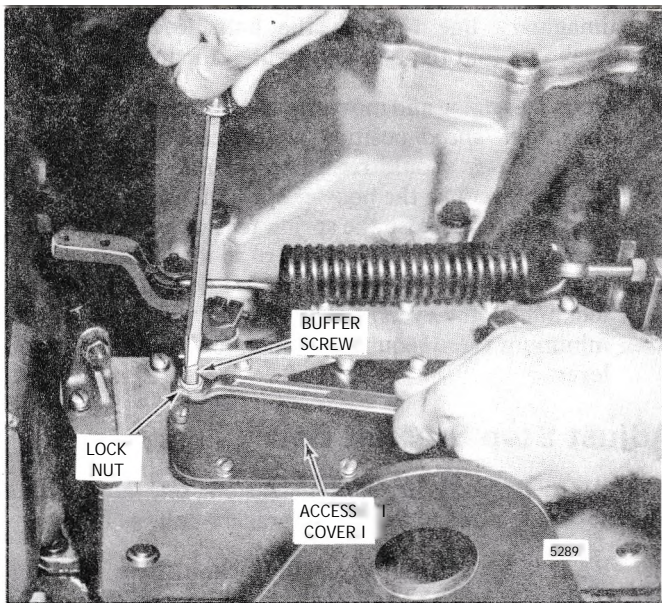

Fig. 10 - Adjusting Buffer Screw
2. With the engine at idle speed, *turn the buffer screw IN* (Fig. 10), while holding the locknut with an end wrench, so that it contacts the right bank operating lever as lightly as possible and still eliminates engine roll. Do not raise the engine idle speed more than 15 rpm with the buffer screw.